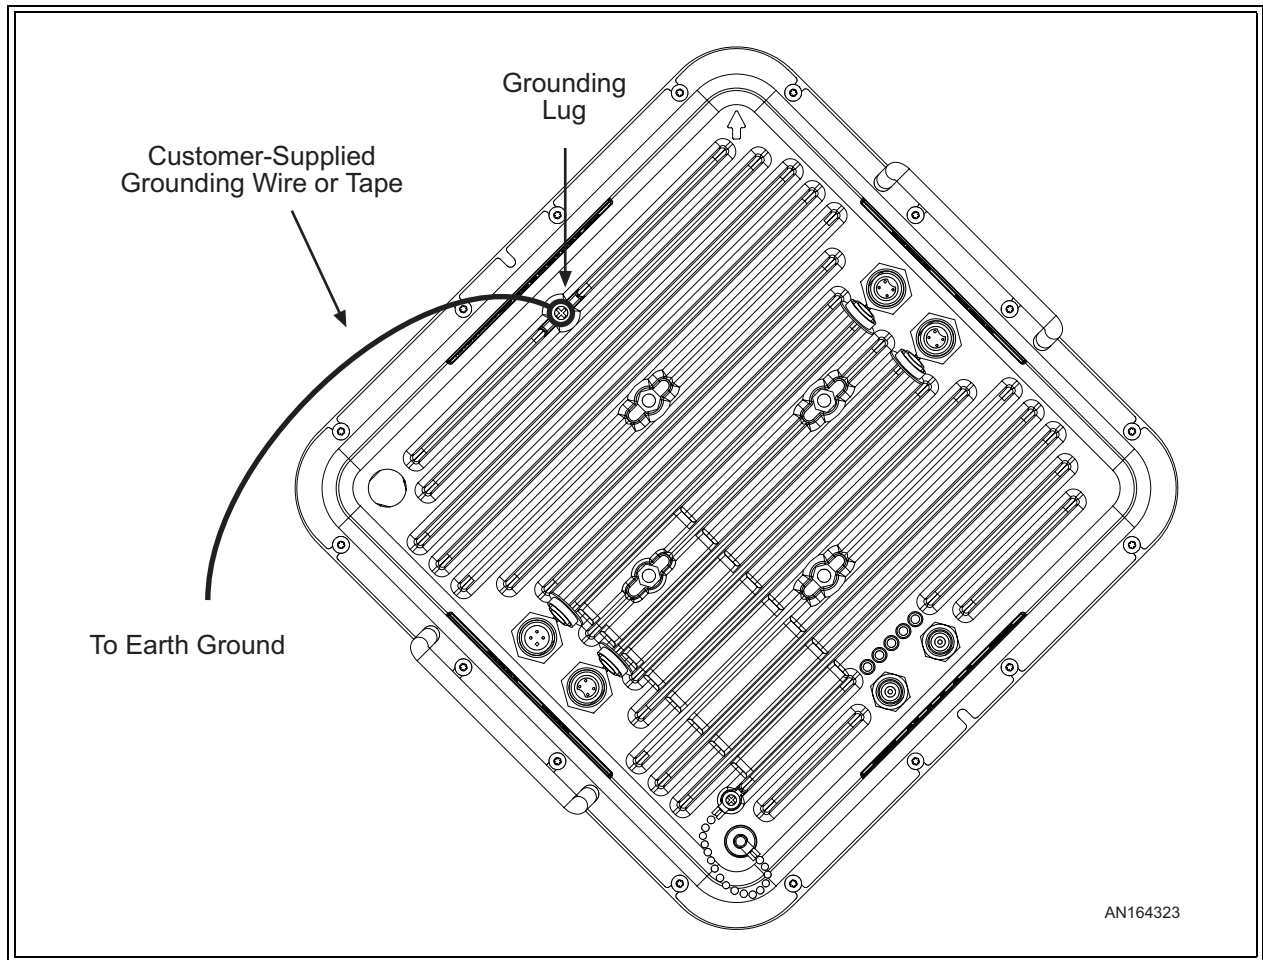

Figure 4-18 Connecting an Earth Ground to the Aeras WaveLink
- 46** Following the guidelines in Appendix 4, connect a customer-supplied solid wire or tape (not braided) grounding wire to the grounding lug on the back of the Aeras WaveLink. See Figure 4-18 for the grounding lug location.